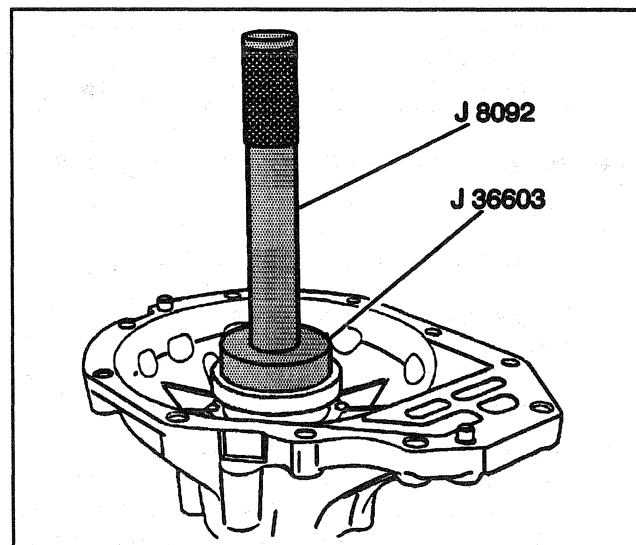

Figure 37—Installing the Side Bearing Cups
4. Side bearing cups. Use J 36603 with J 8092 (Figure 37).